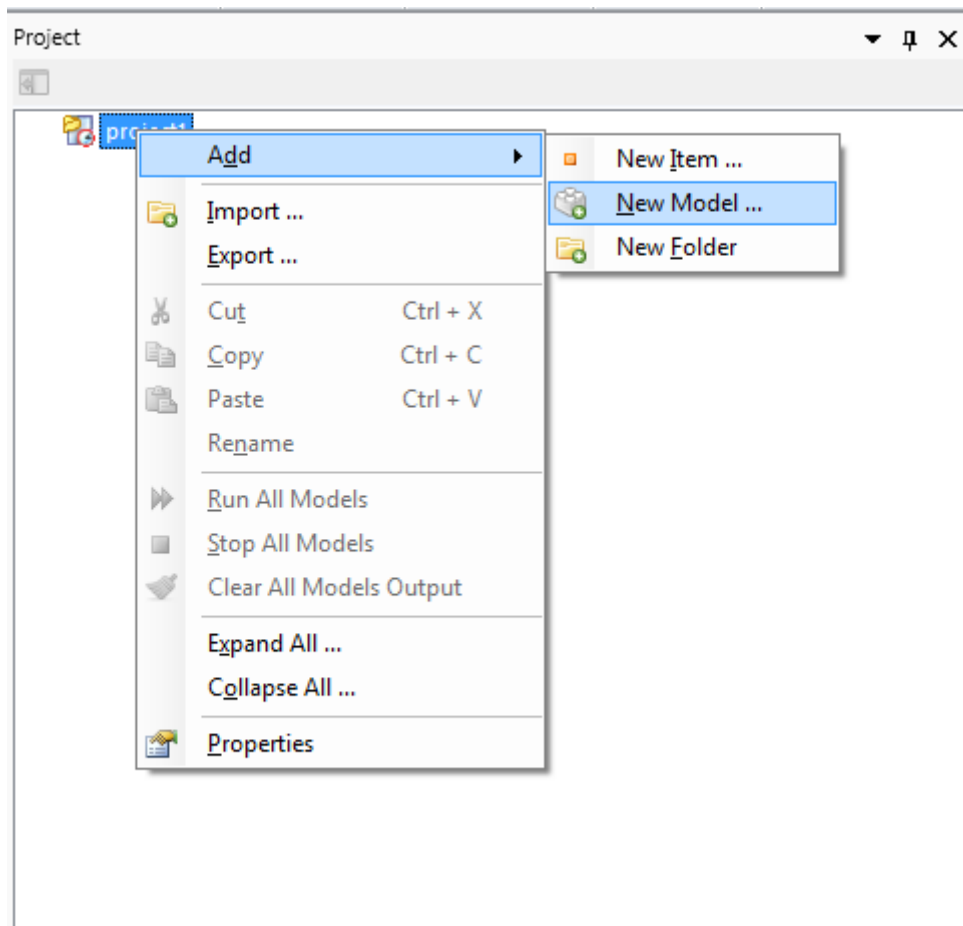

Figure 1.2: Project with context menu showing the Add New Model... button
- ◇ Right-click the project in the **Project** toolwindow and select "Add → New Model..." (Figure 1.2)